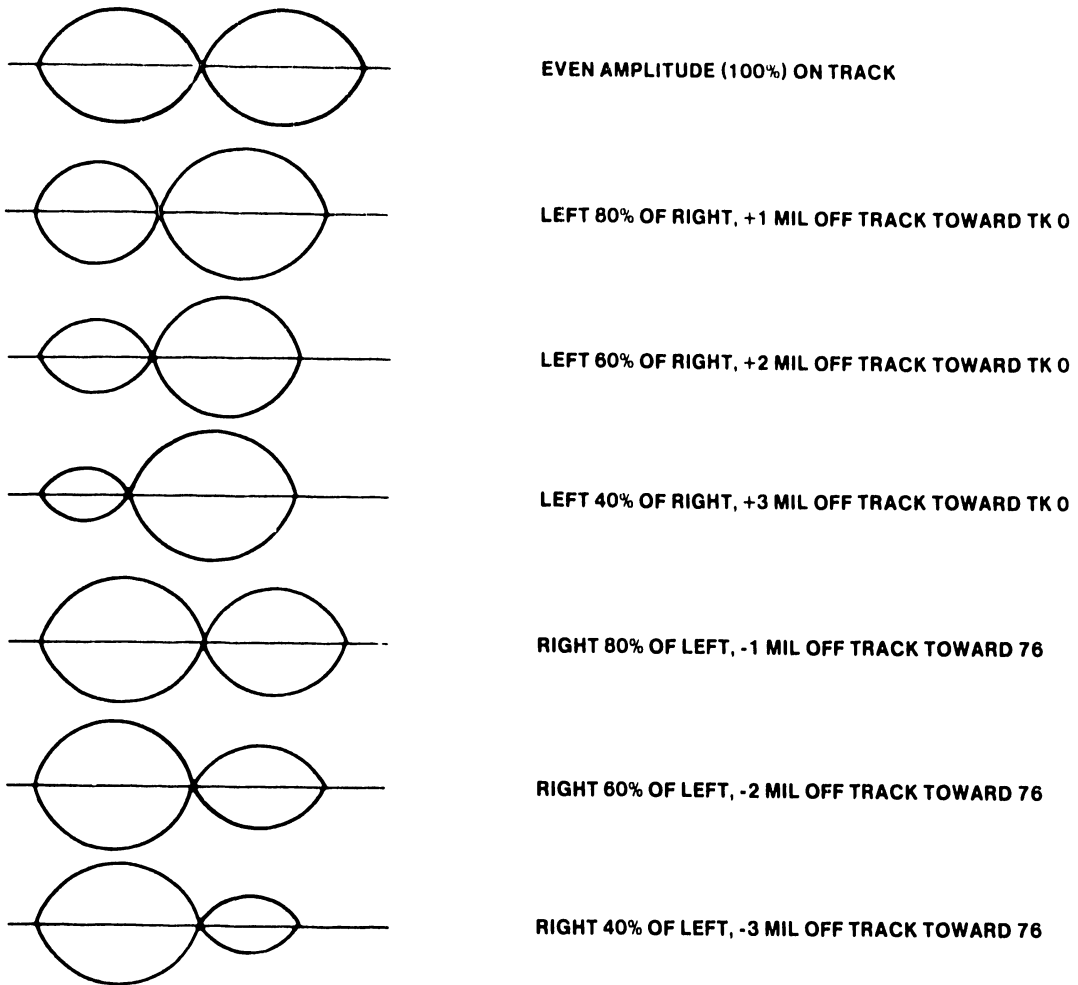

FIGURE 4 HEAD RADIAL ALIGNMENT WAVEFORMS
5. Hit ENTER and observe oscilloscope for waveform shown in Figure 4. The amplitude of the lobes ("Cats Eyes") must be within 80 percent of each other. If not, perform the following adjustments: